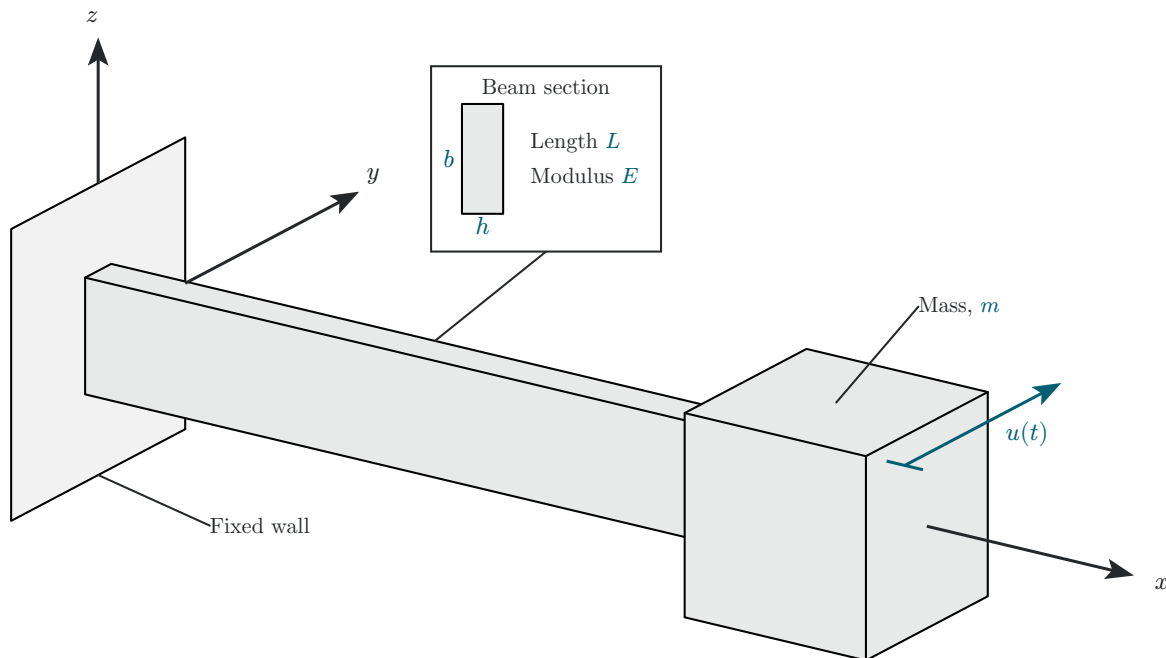

Figure 19: Horizontal flex-beam vibrating system.
Consider a cantilever beam of length L with a mass m attached at its tip as shown in Figure 19. The beam cross-section properties are E , h , b .
- (1) Assume vibration with horizontal time-varying displacement $u(t)$ as shown in Figure 19.
- (2) Calculate the cross-sectional stiffness EI of the beam for flexural deformation consistent with $u(t)$.
- (3) Calculate the flex-beam spring constant k .
- (4) Draw free-body diagram (FBD) including all the forces acting on the mass m .
- (5) Deduce equation of motion (EOM).
- (6) Compare the EOM deduced here with the EOM derived in Problem B.1.
- (7) Solve the initial value problem (IVP) and find the response for simultaneous application of both initial displacement u_0 and initial velocity $\dot{u}_0$.